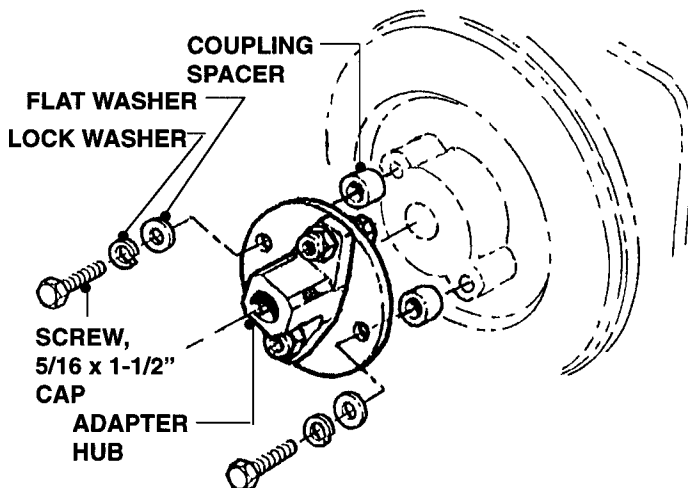

FIGURE 4.10
- B. Remove the two (2) Hex Hd. Cap Screws, Lock Washers and Flat Washers which secure the Flexible Disc to the Engine Driveshaft.
- C. Slide Adapter Hub/Flexible Disc Assembly away from Engine. Place Coupling Spacers and Washers aside for reassembly. Refer to Figure 4.10.